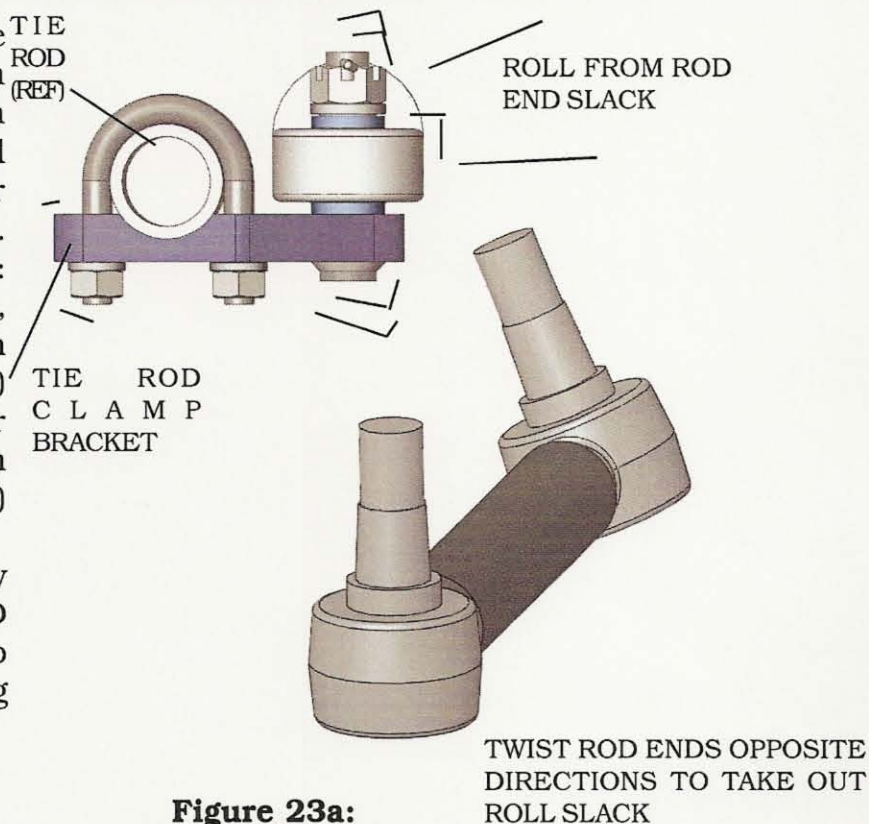

Figure 23a:
- b) Offset the Tie Rod Ends in opposite directions (Figure 23a) - backing off only slightly after rotational movement in each direction stops, and